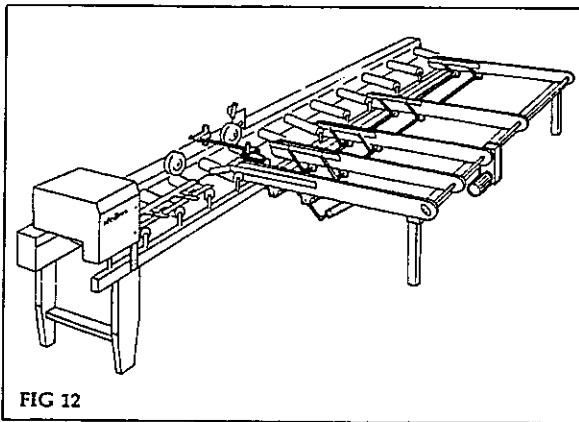

FIG 12
- Fig 12 Final adjustments and settings
- Fig 12 Beam power rise and fall
Feeding at very high feed speeds, typically on flooring, cladding etc, also presents problems to the operator, again a special feeding device. (Fast feed table, Fig 12) can be provided.